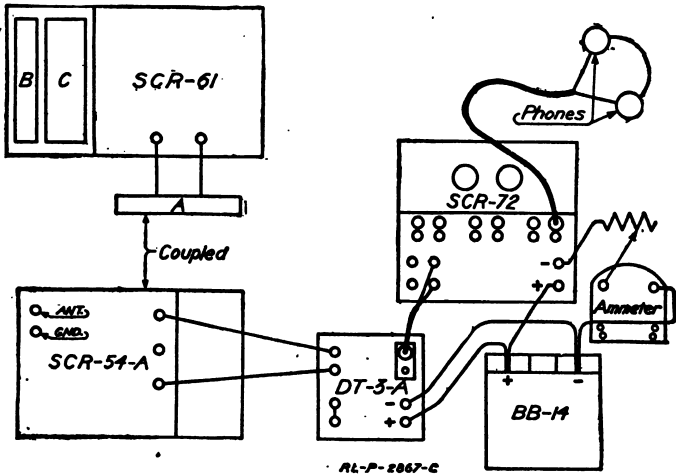

Fig. 63.—Cording diagram of connections when operating the SCR-54-A, the DT-3-A, and the SCR-72 sets together.
3. Make the same set-up of apparatus as in Unit Operation No. 11, with the following exceptions: (Also see Fig. 63.)